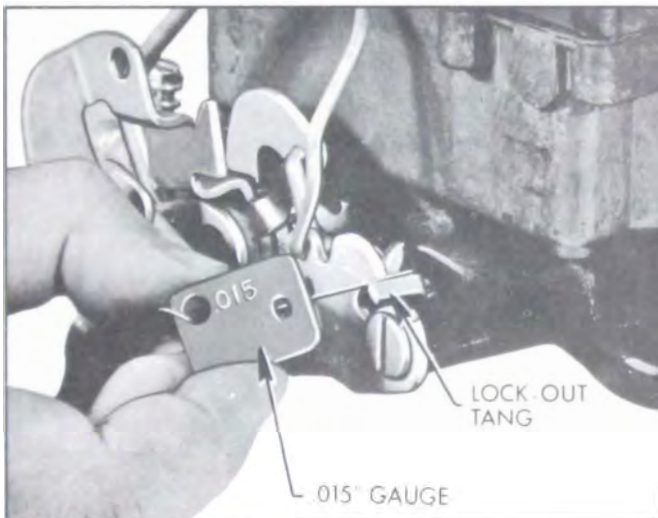

Figure 3-56—Checking Secondary Lock-Out Adjustment
5. Secondary Lock-Out Adjustment. Fully close choke valve so that secondary throttle lock-out tang is in lock-out step of fast idle cam. Check clearance between tang and step, using .015" Gauge. See Figure 3-56.